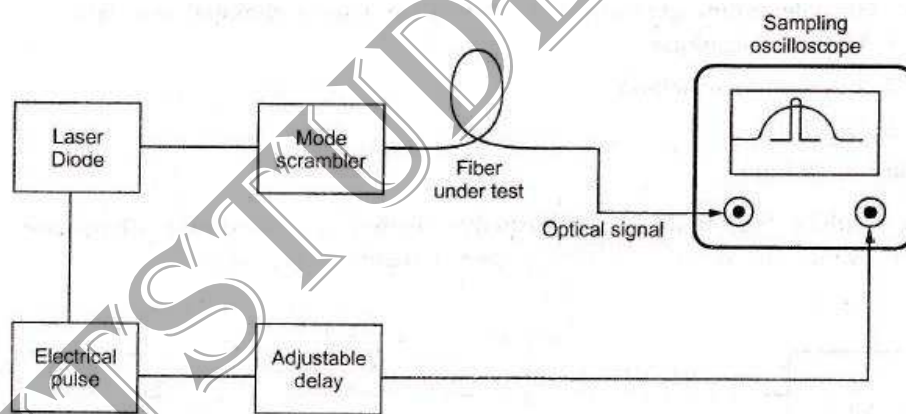

Fig. 8.7.2 Test setup for making pulse dispersion measurements in time domain
- x Time-domain intermodal dispersion measurement involves injecting a narrow pulse of optical energy into one end of an optical fiber and detect the broadened output-pulse at the other end. This set up for this measurement is shown in the Fig. 8.7.2